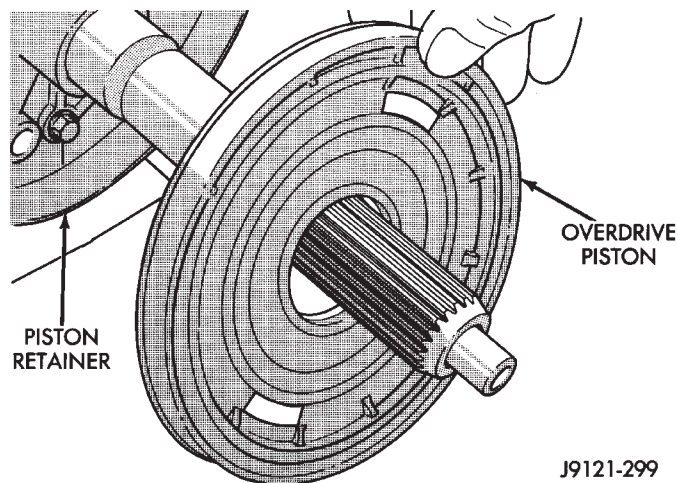

Fig. 250 Overdrive Piston Removal
(3) Remove overdrive piston from retainer (Fig. 250).